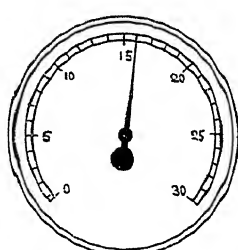

Fig. 22.—LATE IGNITION
12. Late Ignition Timing (Fig. 22)